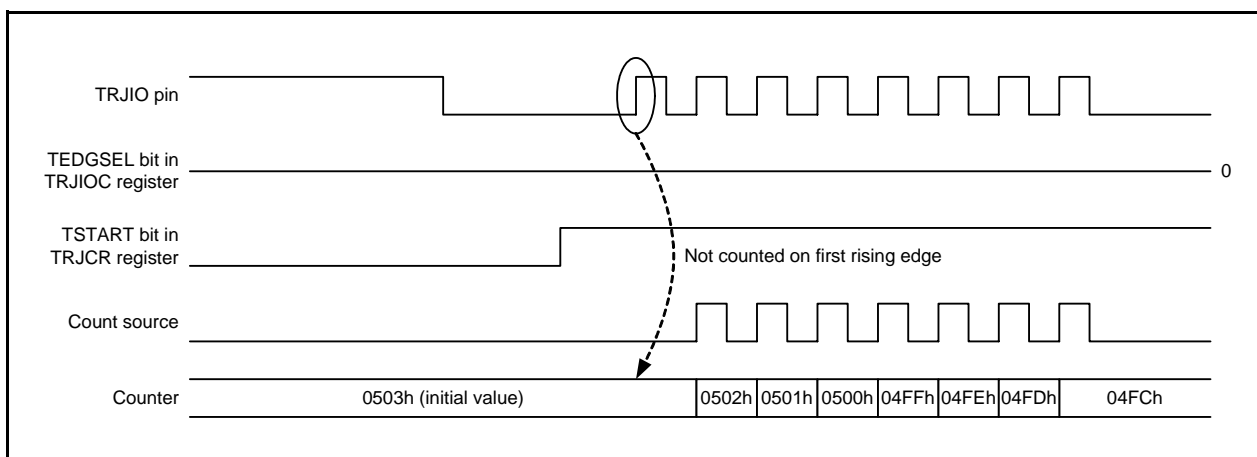

Figure 21.4 TSTART Setting Timing in Event Counter Mode (1)
- (8) When the TEDGSEL bit in the TRJIOC register is set to 0 (count on rising edge) and the external signal (TRJIO) is counted in event counter mode, the signal may not be counted correctly depending on the state of the TSTART bit in the TRJCR register (see Figure 21.4).